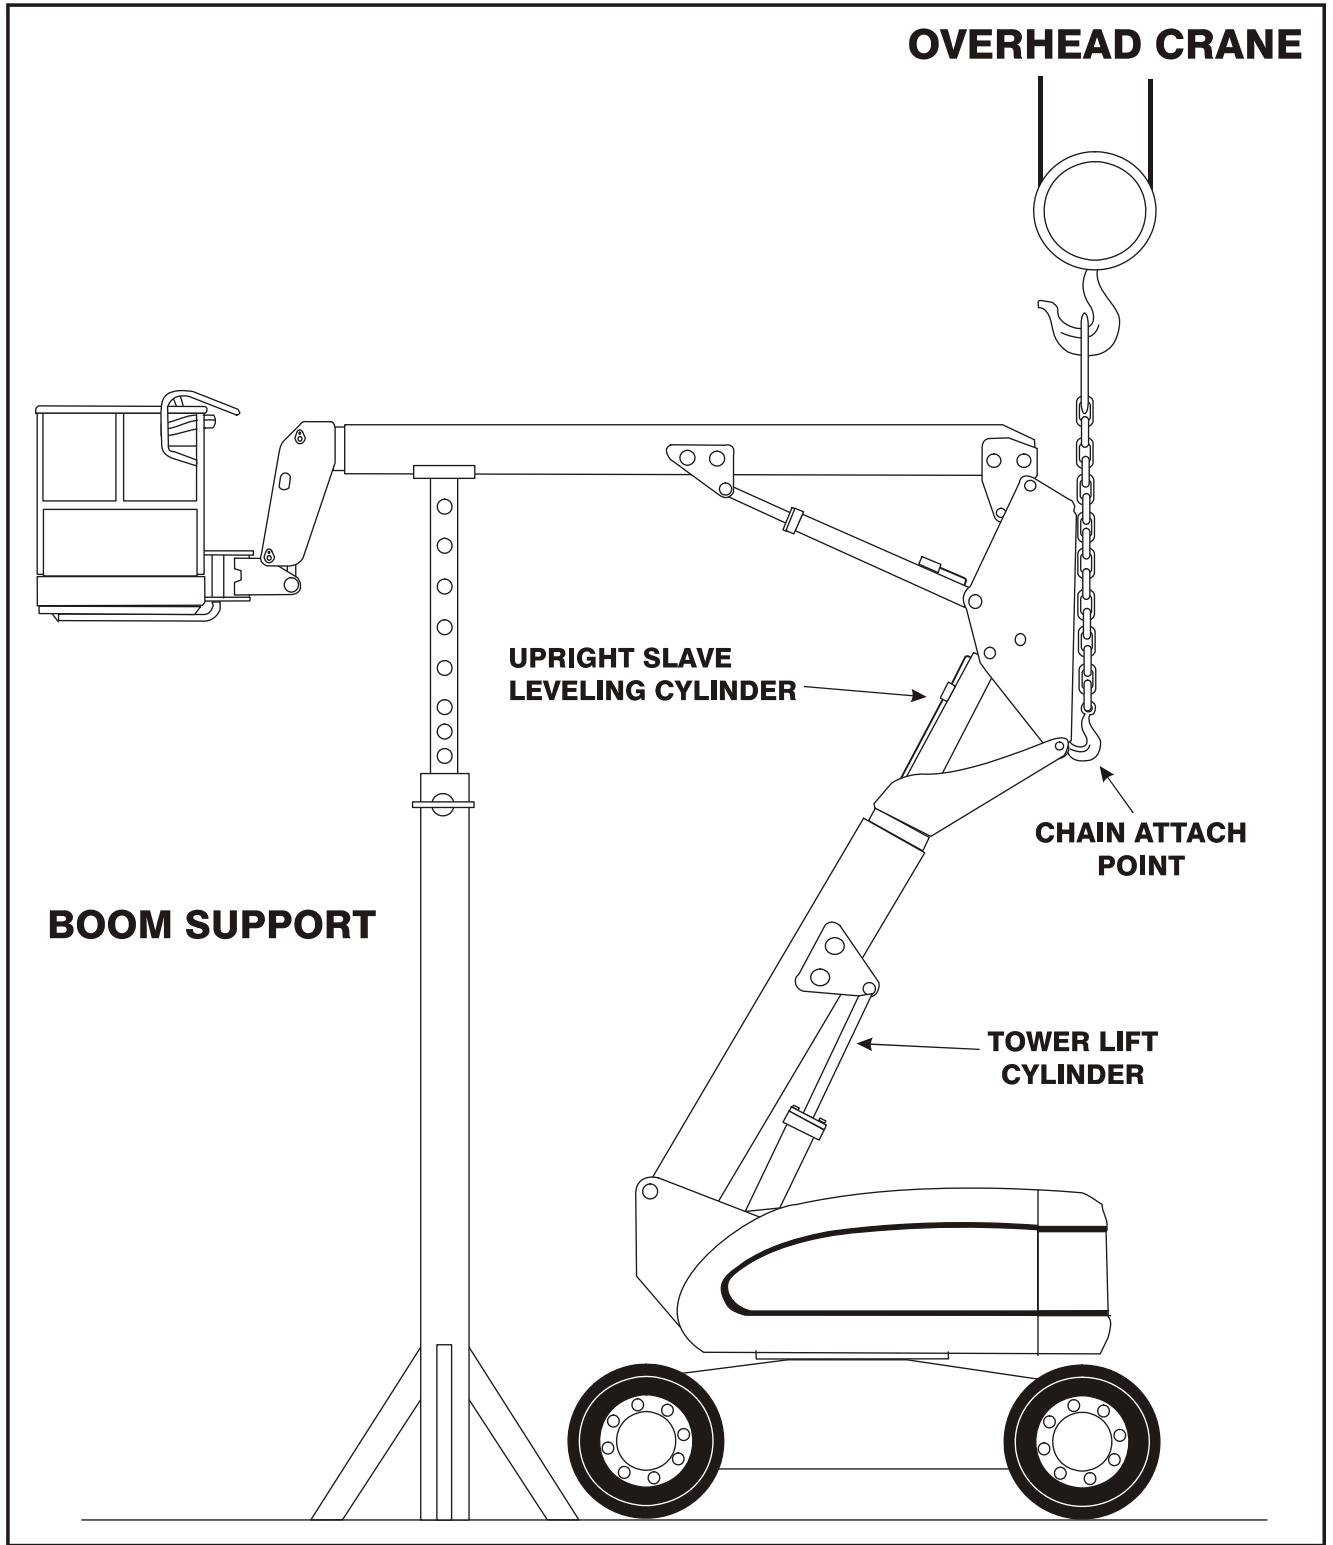

Figure 5-17. Boom Positioning and Support, Cylinder Repair
2. Shut down engine. Support main boom basket end with a prop (See Figure 5-17., Boom Positioning and Support, Cylinder Repair).
1. Place the machine on a flat and level surface. Start the engine and place the main boom in the horizontal position. Shut down engine and prop the boom. (See Figure 5-17., Boom Positioning and Support, Cylinder Repair.
1. Place machine on a flat and level surface. Place the main boom in a horizontal position with the telescope cylinder fully retracted. Place the tower boom in a fully elevated and fully retracted position (See Figure 5-17., Boom Positioning and Support, Cylinder Repair.
2. Support the main boom with a prop. Support the upright with an overhead crane. (See Figure 5-17., Boom Positioning and Support, Cylinder Repair.
1. With the main boom and tower boom positioned and supported as in Figure 5-17., Boom Positioning and Support, Cylinder Repair, place the tower lift cylinder in position on the turntable and secure in place using slings.